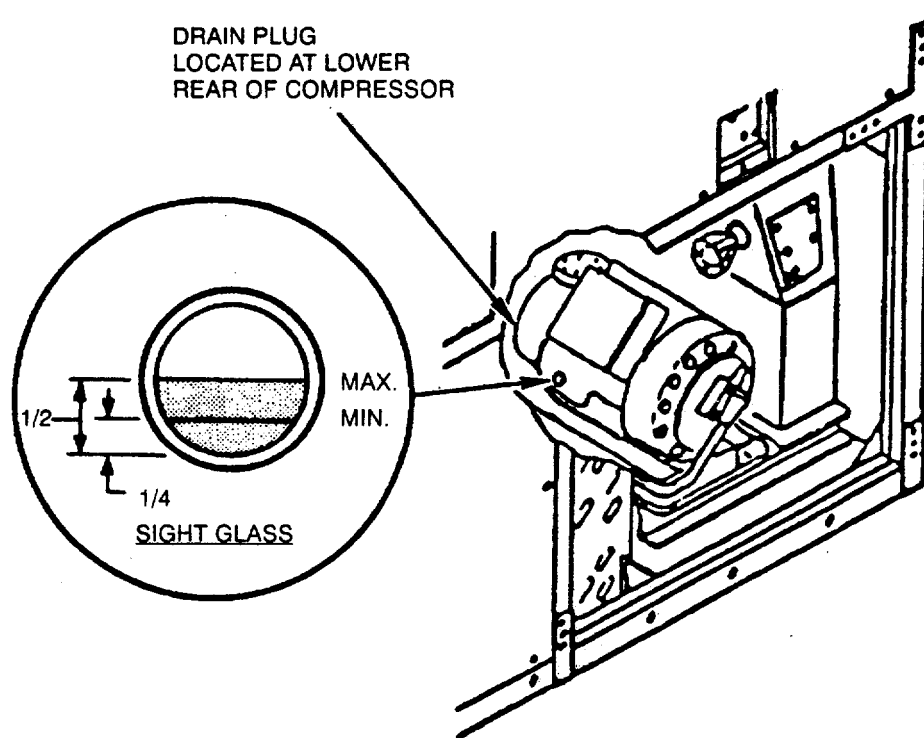

Figure 5-34. Compressor Oil Removal
1. Check sight glass. Refrigerant oil should be between 1/4 min and 1/2 max (see Figure 5-34).